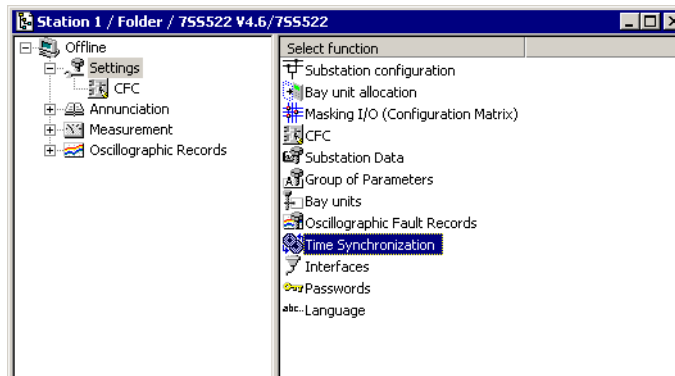

Figure 6-27 Selecting the time synchronization function
- ❑ If you want to change the time offset or the tolerance time of the clock signal in the event of a fault, click **Settings** (Figure 6-27, page 272). The setting groups are shown in the function selection.